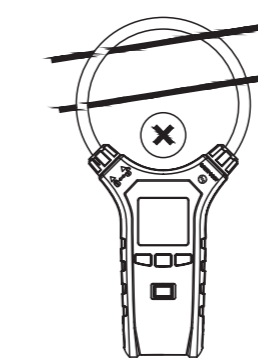

Figure 5a
6. Improper operation examples (see figure 5a, 5b)